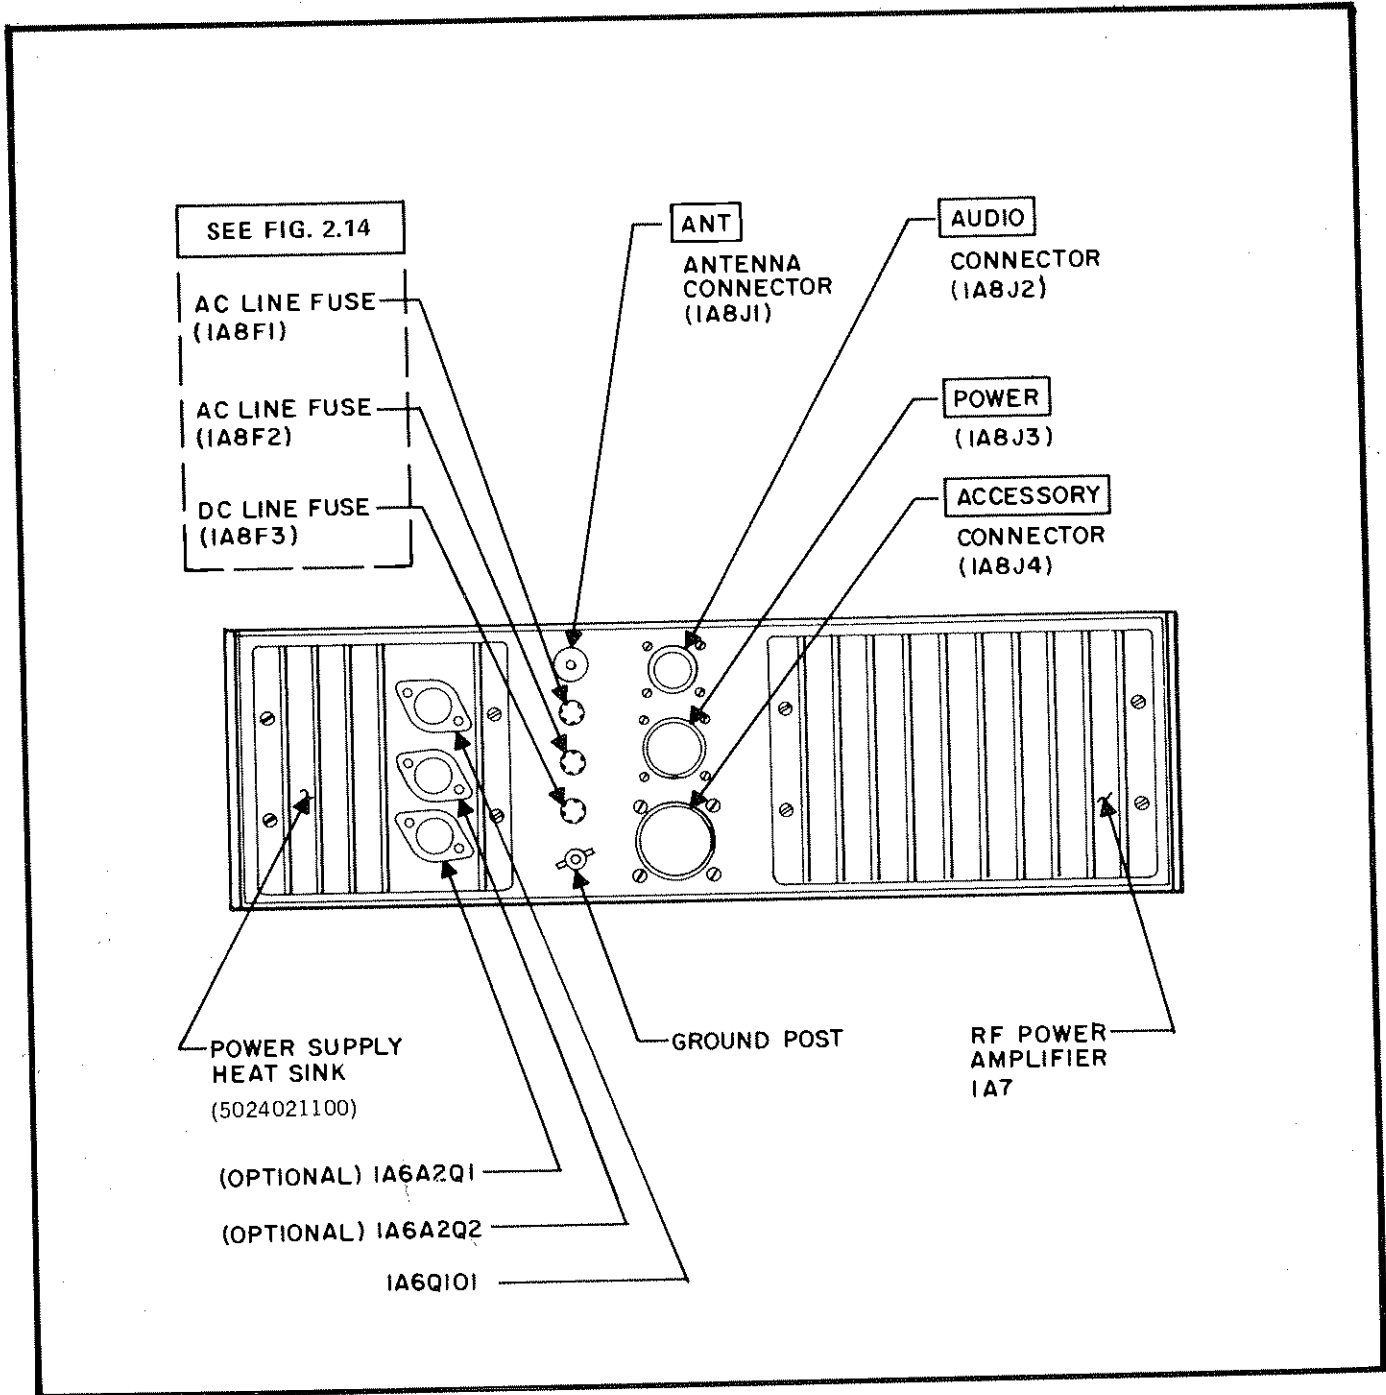

Figure 3.2 GSB-900SC Rear Aprons Components and Connectors
3.3.1 Refer to Figure 3.2 for location